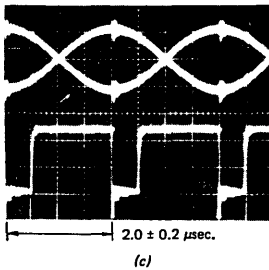

Fig. 5-7
- g. Check if the peak-to-peak value of the output waveform for "2F" is 0.6 ± 0.2 V (**32W** 0.35 ± 0.15 V). (Refer to Fig. 5-7 (a))
- 32W** j. Check if the peak-to-peak value of the output waveform for "2F" is 0.35 ± 0.15 V (Refer to Fig. 5-7 (a))
m. Select "Uncal" on the timing axis of the oscilloscope and then such a waveform as shown in Fig. 5-7 (b) can be obtained.
n. Check if no jittery pulse follows the triggered one. (Refer to Fig. 5-7 (b))
o. Check if the pulses are issued from side 0 or 1 every $2.0 \pm 0.2 \mu\text{sec}$. (Refer to Fig. 5-7 (c))